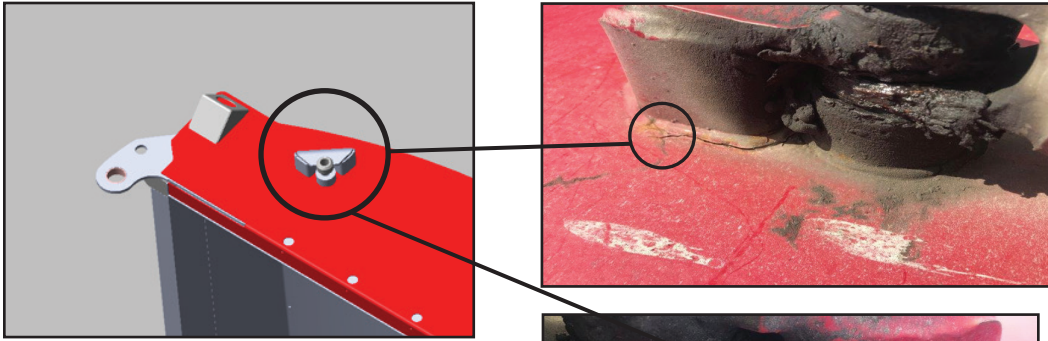

Figure 4
6. Locate the end of the fatigue or weld crack (Figure 4).
7. Drill 2/16" through the hole at that point (drill through 1/2" plate under lug) (Figure 4).